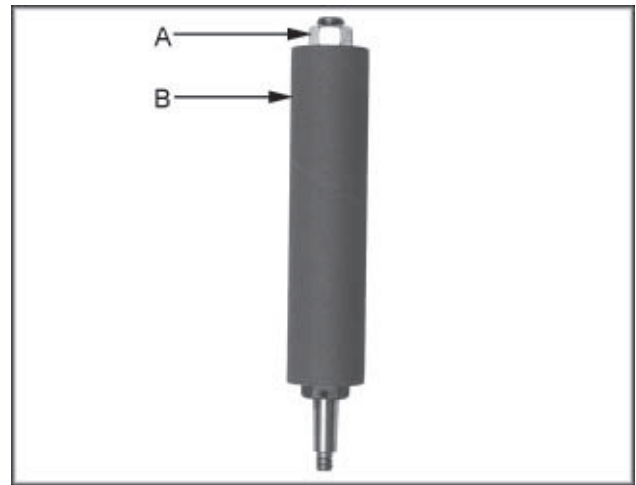

Fig. 7
1. Loosen hex nut (A, Fig. 7) with a 26mm wrench, or large adjustable wrench.
2. Slide the sanding sleeve (B, Fig. 7) off the drum and replace with a new sanding sleeve.